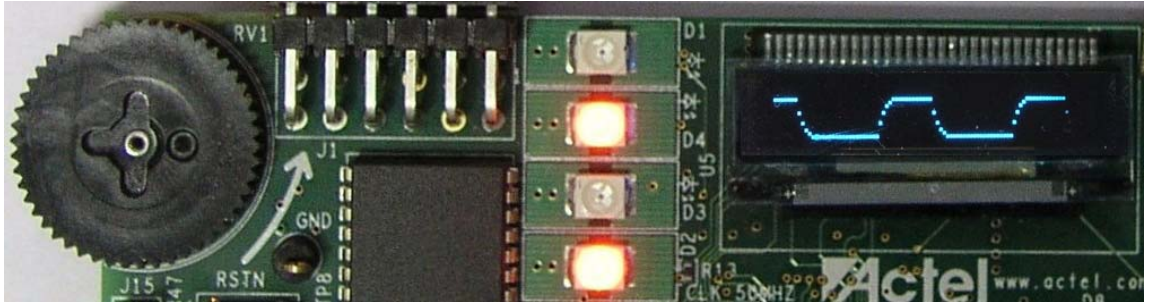

Figure 2-28 · Square Wave
- Click **Square Wave** and repeat step 5 to see the square waveform on the OLED (Figure 2-28).